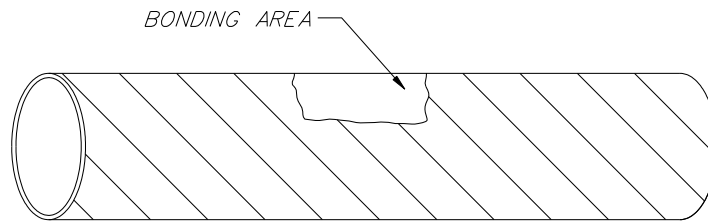
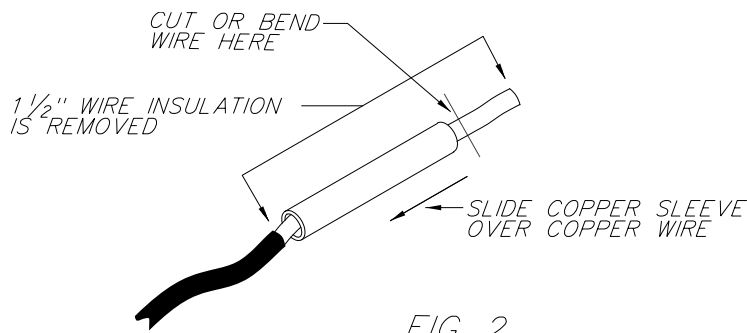

FIG 1
FIG 2
- * 1. Clean a 2" to 3" square on top of the steel or ductile iron pipe, as in Fig 1, using an angle grinder and file down to bare shiny metal. Remove 1 1/2" of insulation from the connector wire end. Slide a copper sleeve on to the connector wire end and crimp it. Cut off the remaining wire or bend the end of the connector wire over the sleeve. See Fig 2. Tug on the sleeve to ensure it is tight.